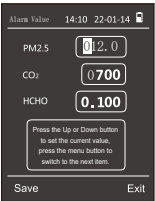

fig.22
d. Alarm Value: Set alarm limit for PM2.5, CO2 or HCHO concentration (fig.22).